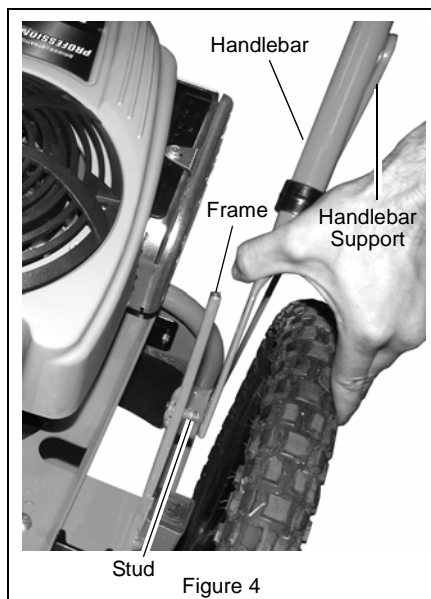

Figure 4
4. Place the lower hole of one end of the handlebar on frame stud. Spread lower ends of handlebar until the opposite end can be installed on frame stud. See Figure 4.